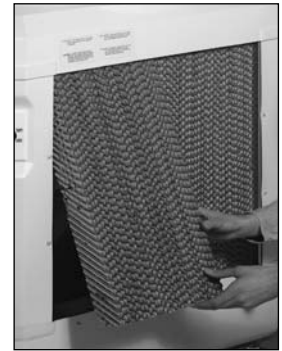

Figure WC-1HP.10 - Pads
5. Remove the cooling pads from all four sides of the unit. Place a putty knife or large flat-blade screwdriver under the pad to lift it up, then outward. With one pad out, the rest can be easily removed by placing one hand on the pad's inside, your other hand on the outside and lifting the pad up and out from the bottom (see figure WC-1HP.10 - Pads).